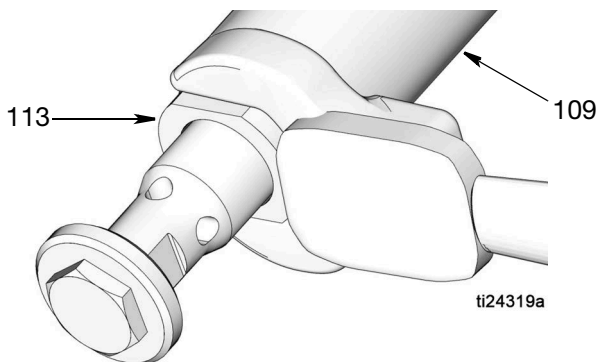

FIG. 27
3. Install upper ball (106), retaining washer (103) and seal (104), with lips facing up, in extension rod (107). Screw piston (102) into extension rod (107). Torque the piston to the extension rod to 25-30 ft-lb (34-41 N.m).
4. Install lower ball (106) into end of shovel rod (108). Screw the shovel rod (108) to piston (102). torque the shovel rod to the piston to 25-30 ft-lb (34-41 N.m).
5. Install bearing (111) and seal (112) with lips facing up, in pump cylinder (109). Screw retainer seal (113) into pump cylinder (109).
6. Screw together pump cylinder (109) and extension tube (114). Use a 7/8 inch crow foot wrench on retainer seal (113). torque to 45-55 ft-lb (61-75 N.m) (FIG. 27).
5. Apply thread lubricant to spacer tube (114) and thread into pump adapter (8). Use a 7/8 inch crow foot wrench on retainer seal (113). torque to 45-55 ft-lb (61-75 N.m) (FIG. 27).